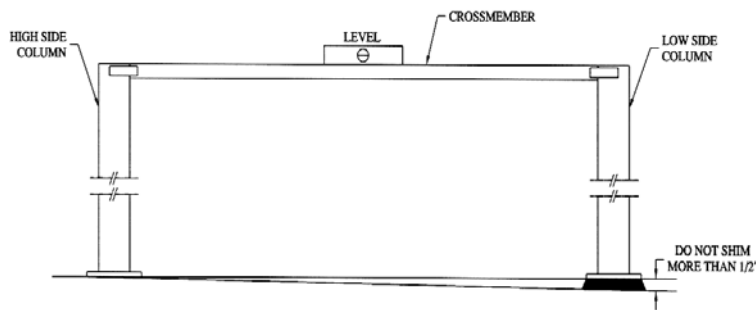
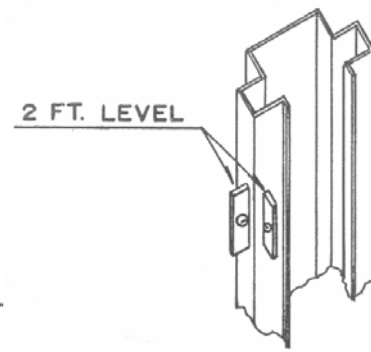
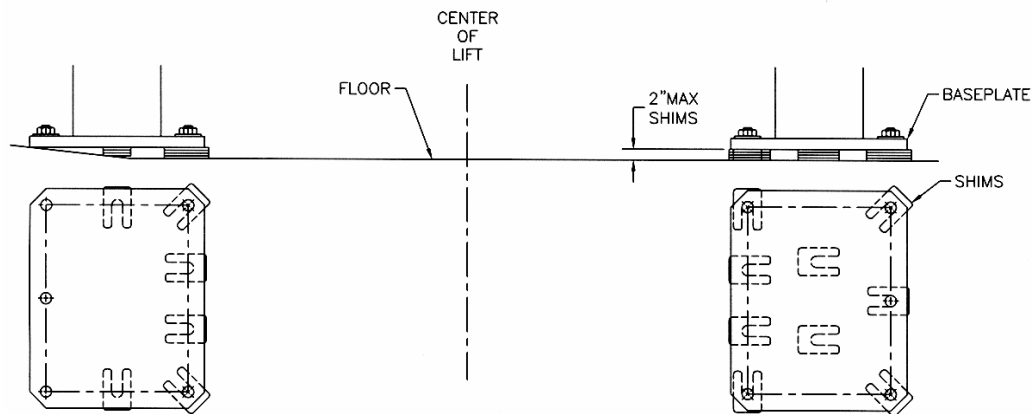
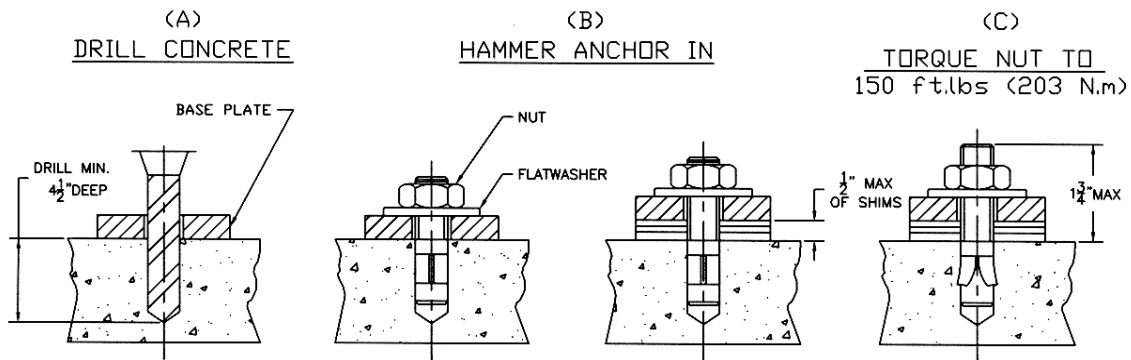

Figure 13 – Crossmember Leveling
Figure 14 – Tower Leveling
Figure 15 – Shim Placement
Figure 16 – Anchor Installation
1. Using a 4ft. level on top of the crossmember, determine which column is higher (**Figure 13**).
2. Using 2 ft. level on the sides of the high column, ensure that the column is level in the vertical position (**Figure 14**). Use shims under the column baseplate to hold the column level. Ensure that the base plate is completely supported by shims where it does not contact the floor (**Figure 15**).
5. Reconfirm that the column is level front to rear and side to side (**Figure 14**). Add or remove shims as required.
1. Using a 4ft. level on the crossmember (**Figure 14**) and a 2ft. level on the low side column (**Figure 15**), shim underneath the baseplate until the crossmember and column are level. Ensure that the baseplate is completely supported by shims where it does not contact the floor (**Figure 16**).
4. Reconfirm that the crossmember is level (**Figure 13**) and that the column is level front to rear and side to side (**Figure 14**). Add or remove shims as required.